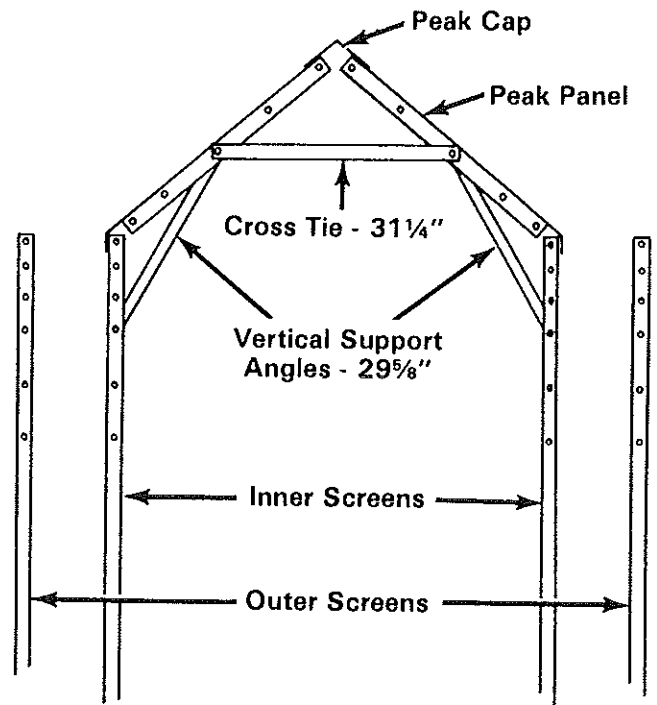

Figure 2A
3. Install two more peak panels (one on each side). Install cross tie ($31\frac{1}{4}$ ") and two vertical support angles ($29\frac{1}{4}$ ") to the center hole of peak panel seams with 5/16 - 18 x $1\frac{1}{4}$ " capscrews and flanged locknuts as shown in Figure 2A.
4. Fasten the other end of the vertical support angles to the fourth bolt hole down from the top of the inner screen vertical seam on each side as shown in Figure 2A. Remove and discard the 5/16 - 18 x $\frac{1}{2}$ " capscrews and use 5/16 - 18 x $\frac{3}{4}$ " capscrews to bolt the vertical support angles to the inner screens. Fasten the peak panels to each other at the seams with 5/16 - 18 x $\frac{3}{4}$ " capscrews and locknuts.